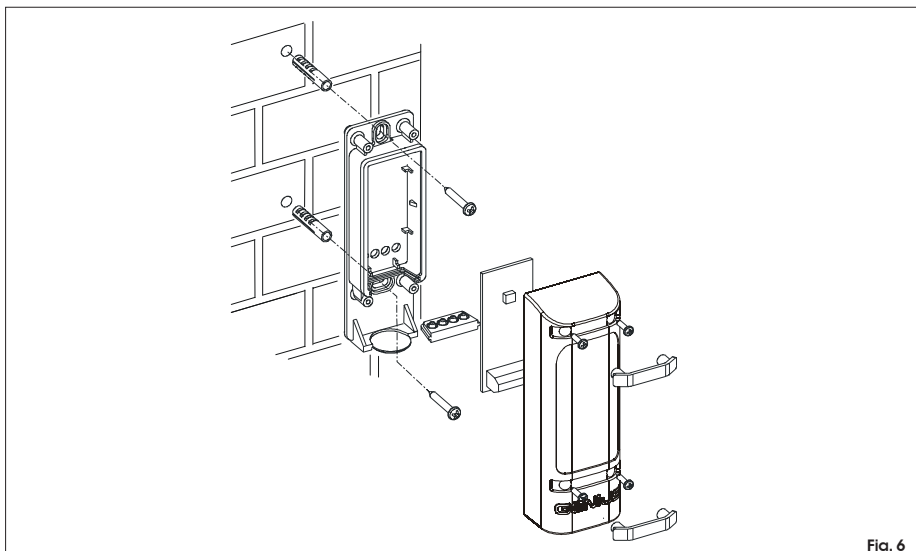

Fig. 6
- Assemble Vega using the components supplied (fig.6).